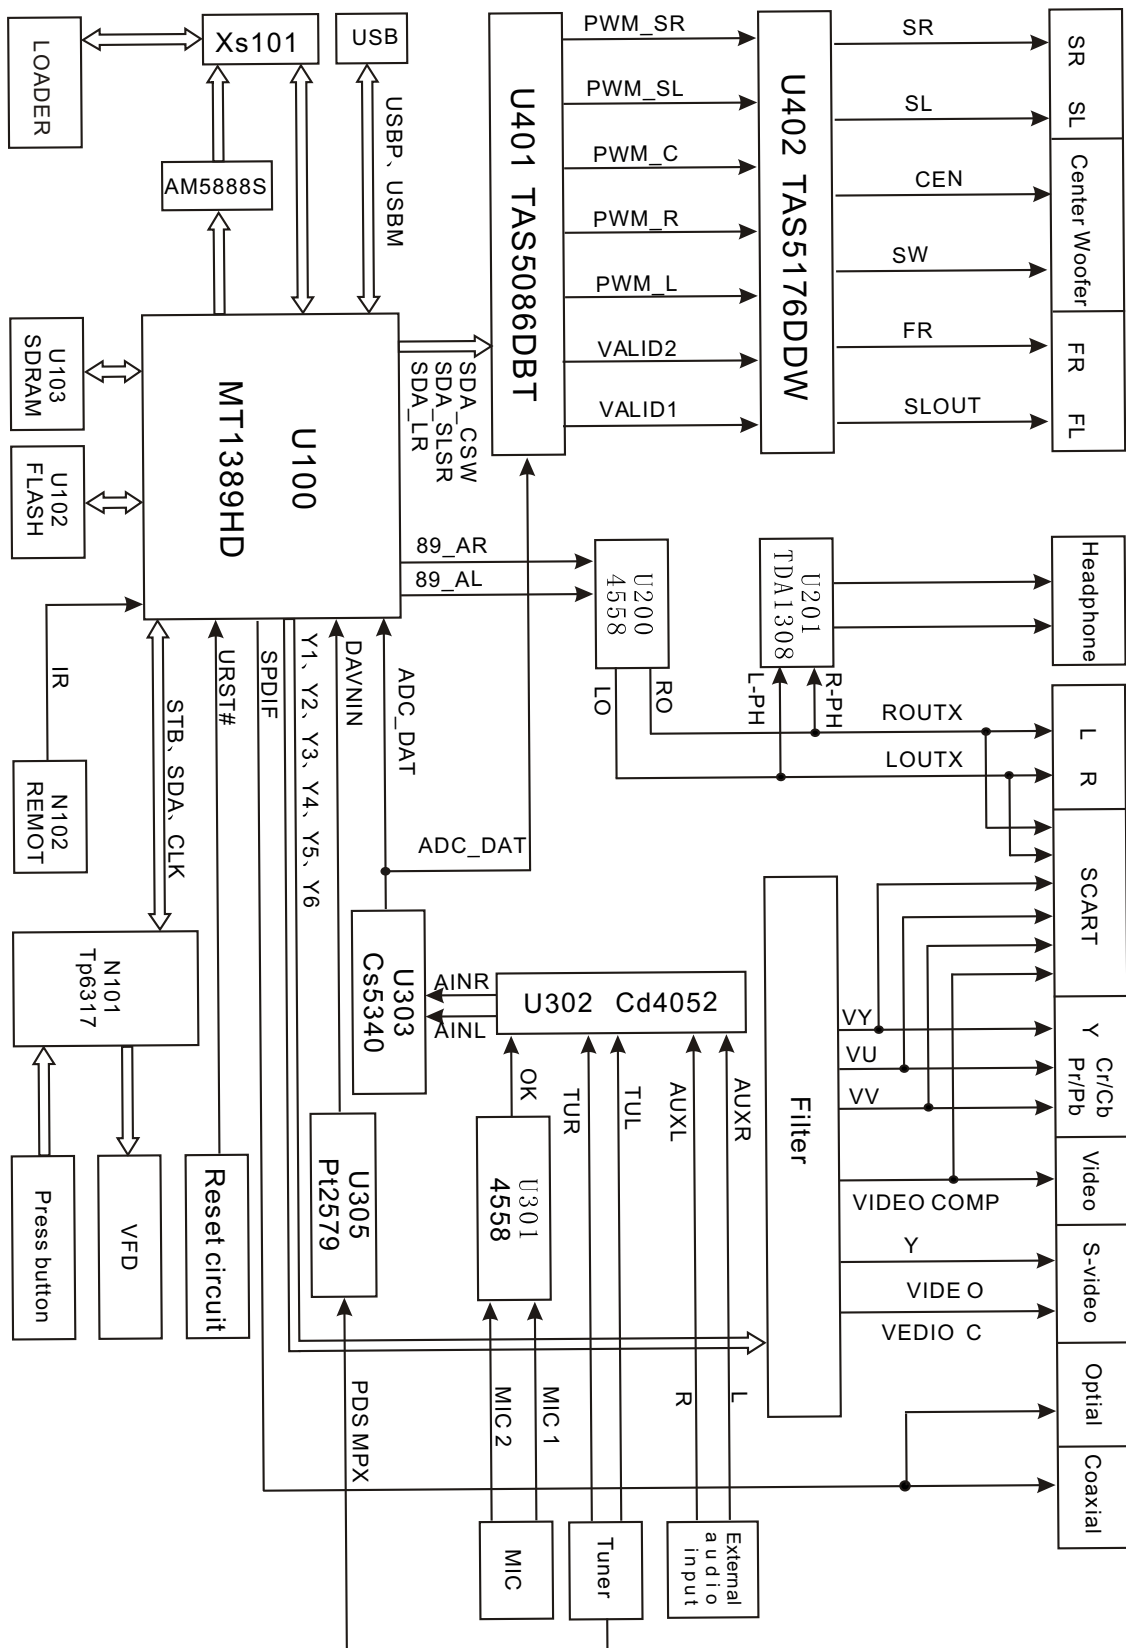

Figure 3.2.1 Block diagram of player
Block diagram for DK1513SI(RU) player is shown in figure 3.2.1